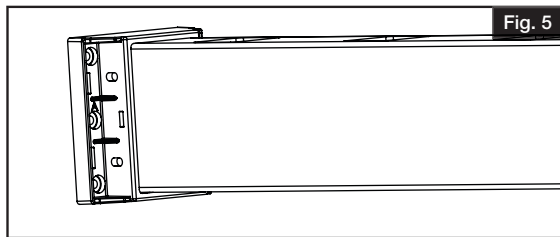

Fig. 5
- Place brackets onto both ends of bottom rail (Fig. 5).